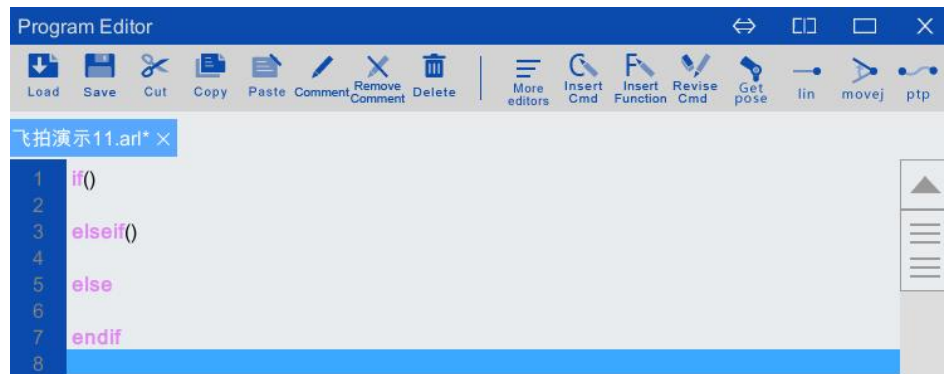

Figure 5-24 Contents of the program frame with the "if" instruction inserted
Step2. Click "Insert instruction > Logic control > if" option in the program editor toolbar, and the program frame of the if instruction is inserted. Please refer to Figure 5-24.